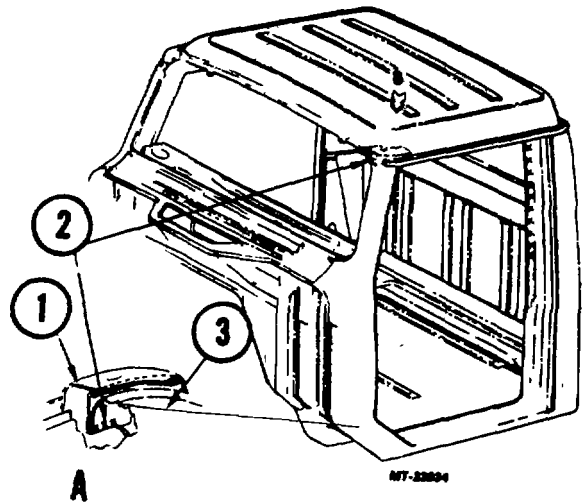

Fig. 45 Side Panel to Roof Outer and Inner Panel Spot Welds (Outer Roof Panel not Shown)
9. Drill out three spot welds and separate side panel from roof outer and inner panels (Fig. 45).